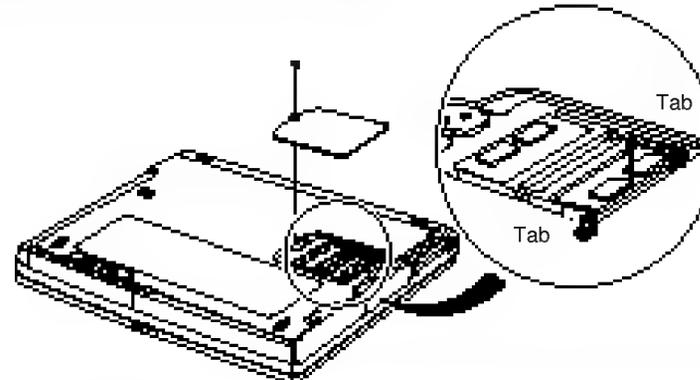

Figure 26. Removing a Memory Module
- a. Pull the tabs on the connector slot outward slightly, until the edge of the memory module pops up (Figure 26).